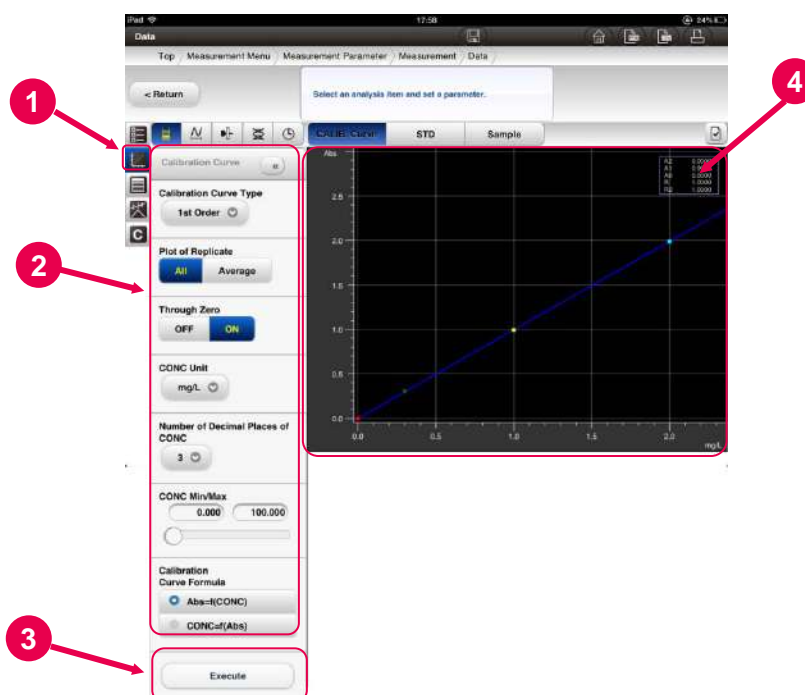

Fig. 5-24 Calibration Curve Setting Parameters Window
- (1) Click [Calibration Curve Tool] icon  to change the calibration curve.
- (2) The setting parameters for the calibration curve (Fig. 5-24) are displayed. See 4.2.1 “Quantifying the Concentration of Solution” for the setting parameters.
- (3) Set up the items and press the [Execute] button.
- (4) The results of the data processing are displayed.